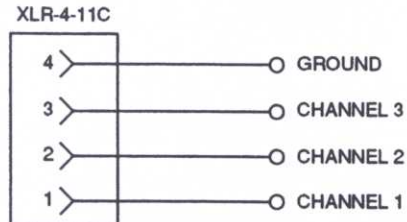

**Figure 5-2**
- A capacitive load box (see Figure 5-2)